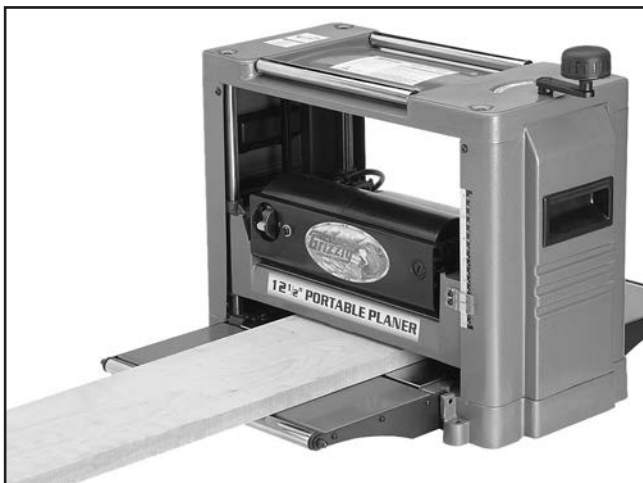

Figure 16. Basic planing operation setup.
5. Place the flat surface of the workpiece facing down on the infeed extension wing and table, and under the cutterhead, as shown in **Figure 16**.
6. Use the elevation crank to lower the cutterhead until the bottom edge of the cutterhead assembly just touches the workpiece, as shown in **Figure 16**.